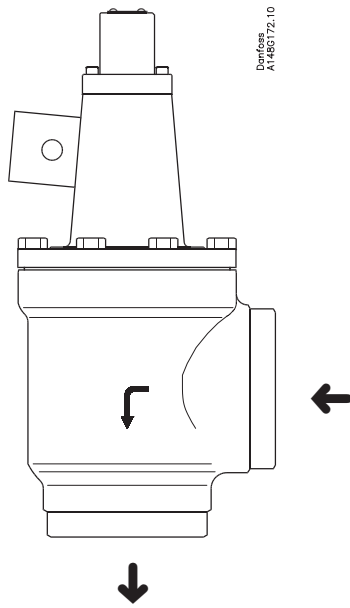

Fig. 1
**It is important always to install strainers in the pipes leading to the pilot valves.****Recommended flow direction (Fig. 1)**